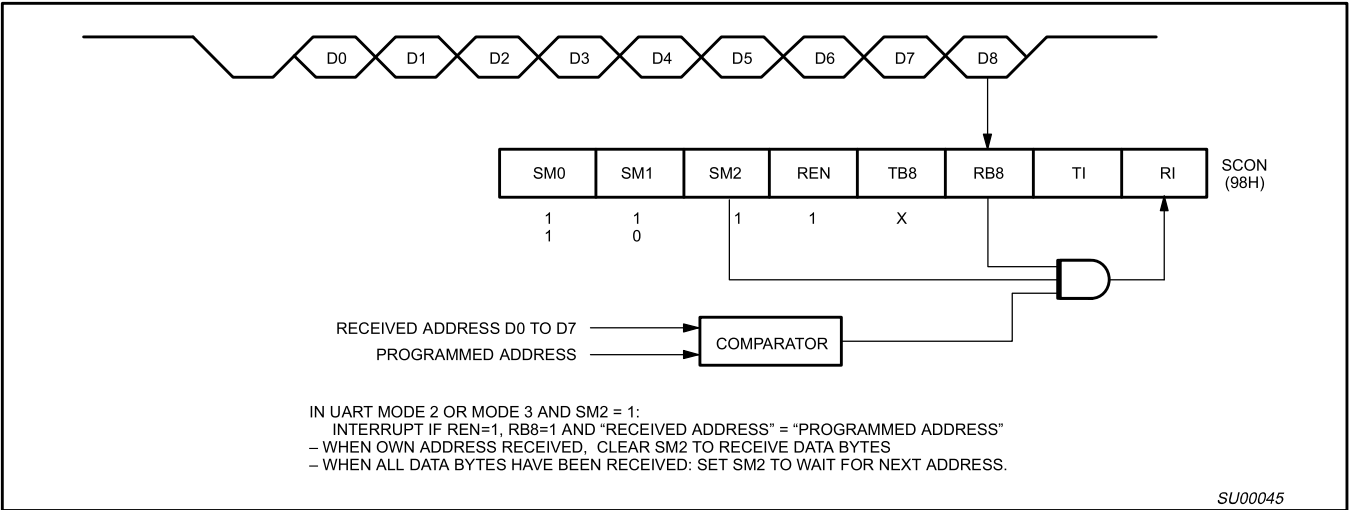

Figure 14. UART Multiprocessor Communication, Automatic Address Recognition
Automatic Address Recognition is a feature which allows the UART to recognize certain addresses in the serial bit stream by using hardware to make the comparisons. This feature saves a great deal of software overhead by eliminating the need for the software to examine every serial address which passes by the serial port. This feature is enabled by setting the SM2 bit in SCON. In the 9 bit UART modes, mode 2 and mode 3, the Receive Interrupt flag (RI) will be automatically set when the received byte contains either the "Given" address or the "Broadcast" address. The 9-bit mode requires that the 9th information bit is a 1 to indicate that the received information is an address and not data. Automatic address recognition is shown in Figure 14.